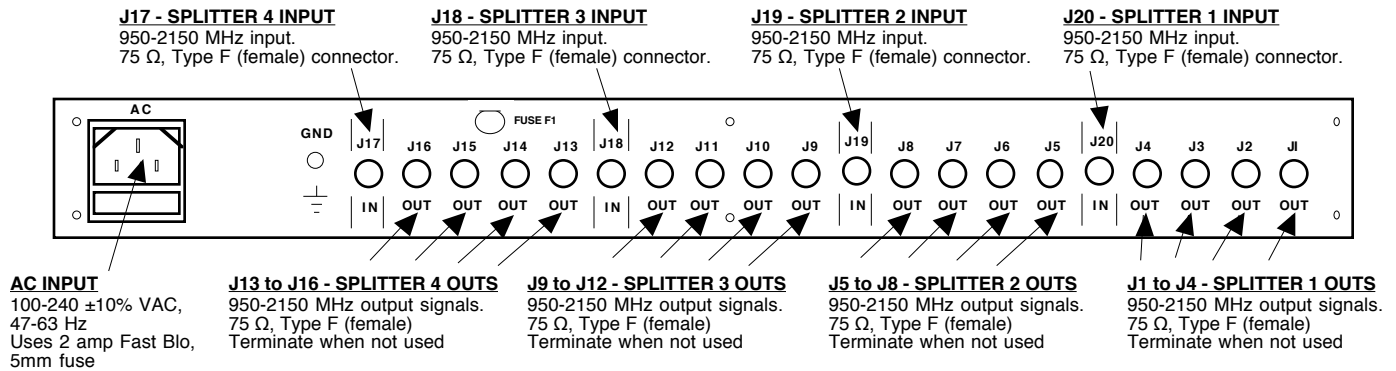

FIGURE 2.1 1584-45S Rear Panel
The input and output connectors on the rear panel are shown in Figure 2.1.
1. Connect RF cables to the 1584-45S (Figure 2.1).